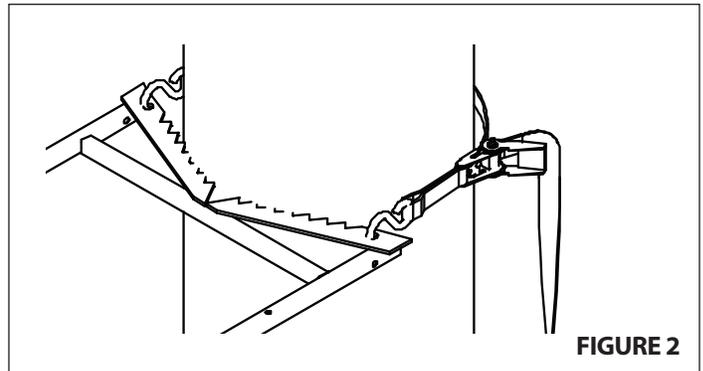

FIGURE 2
4. Standing on ladder step, lean toward tree with ratchet strap now in hand, hook "S" hook with long strap through hole provided on tree blade. Feed the long strap through the center (slot) of ratcheting mechanism and back around through tightening lever. **SEE FIGURES 2 and 3.**
Wrap entire ratchet assembly around tree and hook other "S" hook through opposite tree blade hole. Pull tail of long strap until most of the slack is taken out. Be sure entire strap is even and at the same level all around tree. "Ratchet" tight to tree, this will securely attach ladder to tree and prevent movement. **SEE FIGURES 2 and 4.**